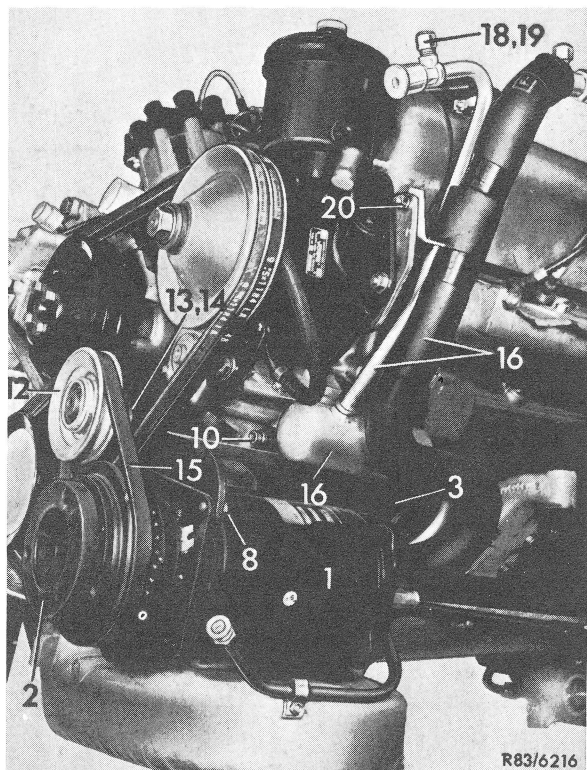
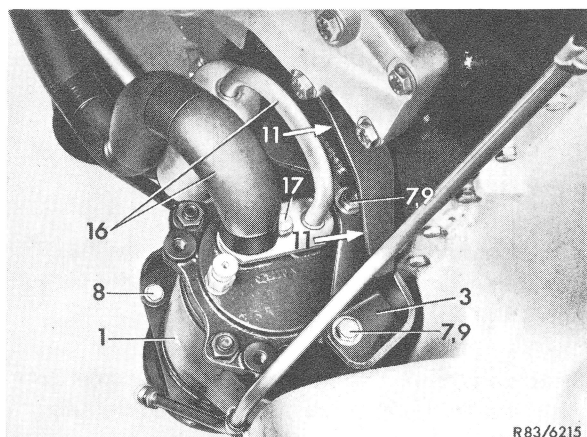
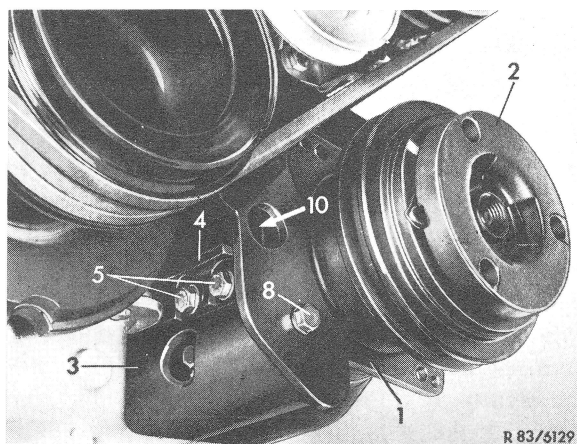

Figure 1
Figure 2
Figure 3
**4** Unscrew belt tensioning roller (12) on mounting bracket of refrigerant compressor (3) and remove V-belt (15) (Fig. 1).
**5** Unscrew discharge and suction hose from pipeline (16).
**6** Unscrew hex. screw (20) on mounting bracket of pressure oil pump.
**7** Unscrew hex. screw (17) and remove pipeline (16) from refrigerant compressor, watching out for sealing rings (Fig. 2).
**8** Screw pressure test plate to refrigerant compressor with available fastening members (17) (83.0–900).
**9** Unscrew two hex. screws (5) from supporting angle bracket (4) (Fig. 3).
**10** Unscrew two hex. screws (11) on mounting bracket (3) rear, and two screws (10) on engine face (Fig. 1 to 3).
**14** Unscrew refrigerant compressor from mounting bracket (3) by unscrewing four hex. screws (7 and 8) (Fig. 1 to 3).
**15** If the pipeline (16) must be removed, turn pipeline by 180° and remove in downward direction.
ing angle bracket (4) with parts item 5, 10 and 11 (Fig. 1 to 3).
**20** Provide O-rings on refrigerant compressor with refrigeration oil and replace, if required. Then screw pipeline (16) to refrigerant compressor by means of hex. screw (17) (Fig. 2).
**22** Screw pipeline (16) with parts item 20 to mounting bracket for pressure oil pump (Fig. 1).
**23** Screw tensioning roller (12) to mounting bracket (3), mount V-belt (15) and tension (Fig. 1 as well as Service Manual Engines 13.1–340).
**Note:** Check alignment of pulley – compressor in relation to pulley – crankshaft and tensioning roller and adjust, if required, by means of compensating washers (14) between tensioning roller and mounting bracket (Fig. 1).
**26** Connect discharge and suction hose to pipeline (16) (83.1–510, Fig. 3).